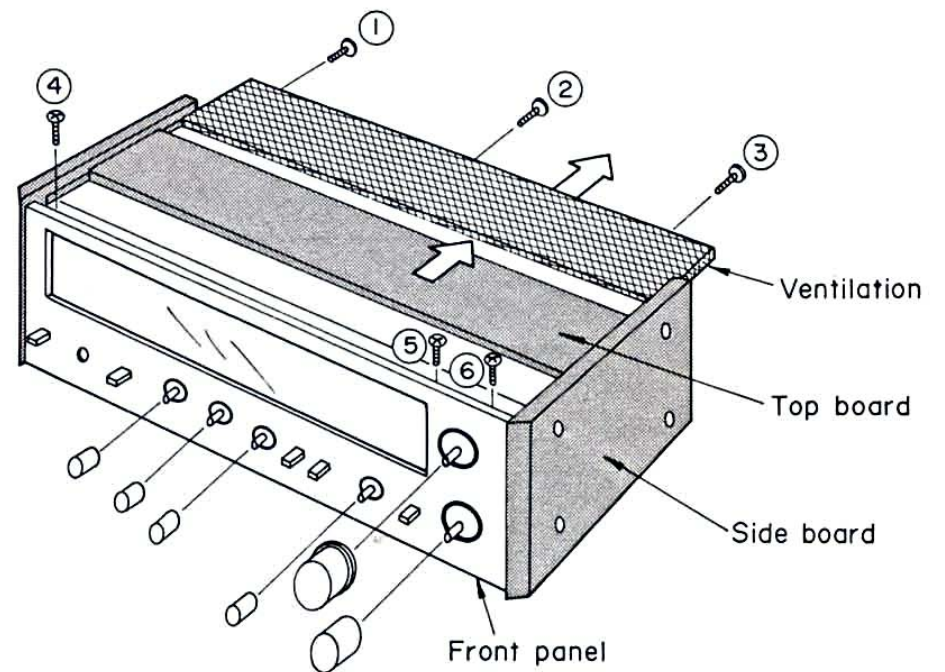

Fig. 1
1. Remove the 3 setscrews [Fig. 1: ①~③] holding the top board and ventilation.
2. Move the top board and ventilation slightly toward the rear of the unit [Fig. 1:]
2. Remove the 3 setscrews [Fig. 1: ④~⑥] holding the front panel and remove the 3 setscrews [Fig. 2: ⑦~⑨] holding the bottom board.